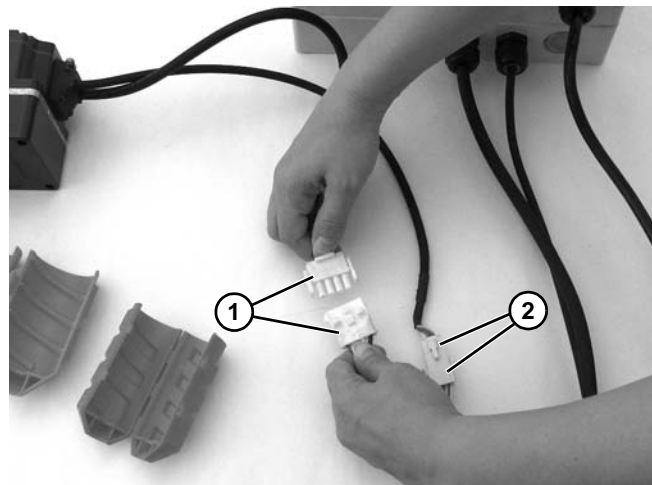

Figure 24
4. Unplug motor cord connectors (Figure 24, item 1) and signal cable connectors (Figure 24, item 2).